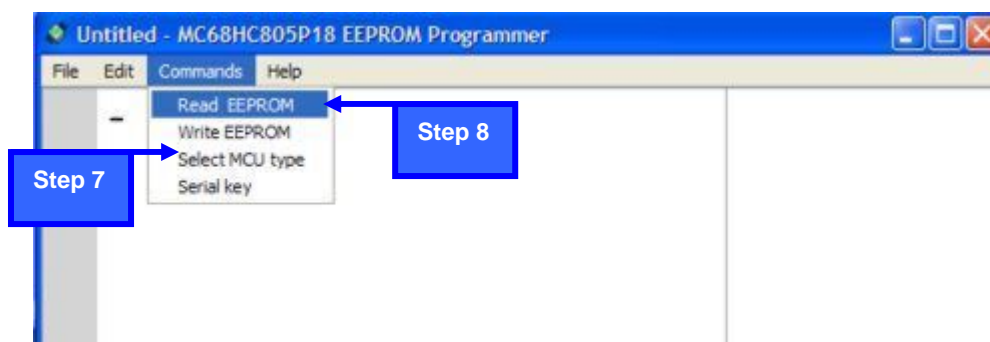

Figure 8
- ▶ Click on Read EEPROM button. Step 8; Figure 8